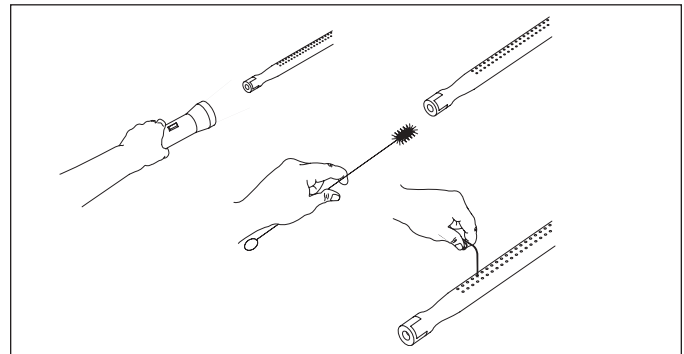

Fig. 2-10
3. For the grill venturis, clean the gas holes with a paper clip if blocked. See Fig. 2-10